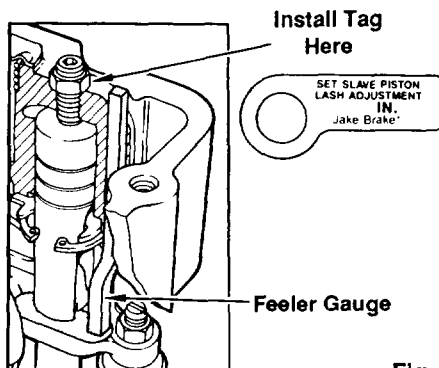

Fig. 4
1. Refer to model 420/425/425A Installation Manual to select the appropriate lash adjustment. Install the correct adjustment tag under the locknut of the # 1 slave piston adjusting screw (Auto-Lash). See Fig 4.
2. Insert the correct lash adjustment gauge between the crosshead and slave piston. Turn the slave piston adjusting screw (Auto-Lash) in until a slight drag is felt on the feeler gauge. See Fig. 4.